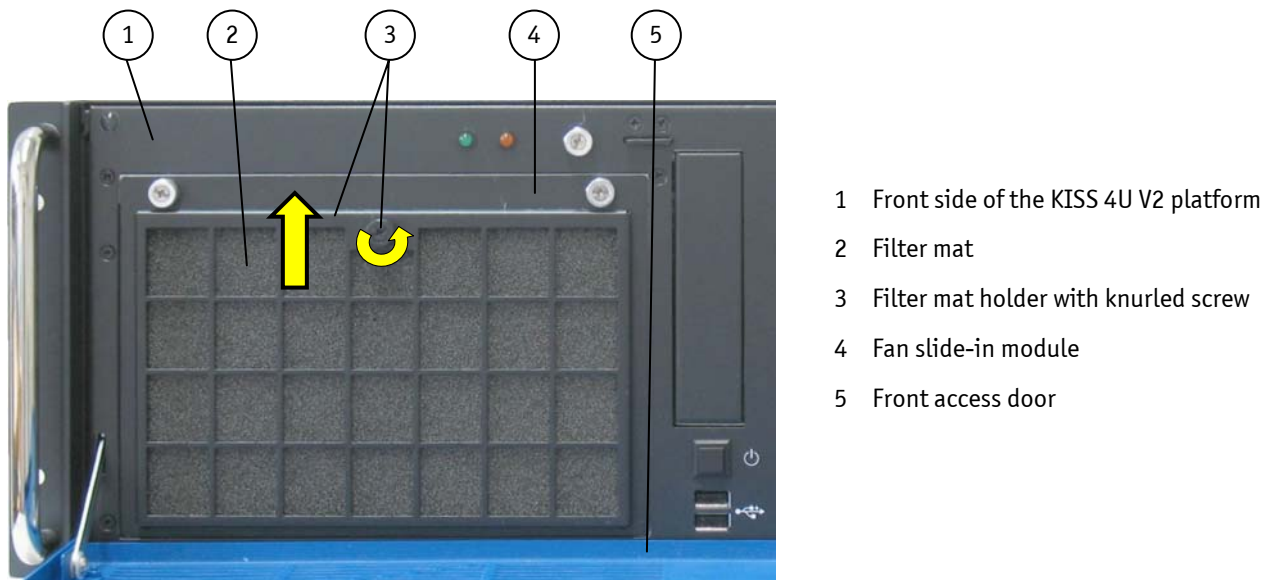
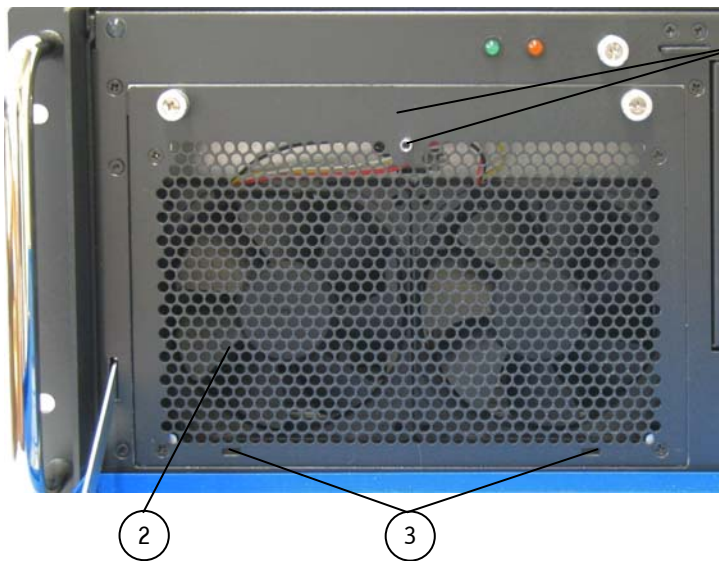

Fig. 32: Detail: Filter mat holder on the front side of the KISS 4U Short V2 platform
Fig. 33: Detail: without filter mat at the front side
The filter mat is inserted in the filter mat holder at the front side of the fan slide-in module (Fig. 32, pos. 4). The soiling of the filter mat is caused by the pollution of the operating environment. A heavily soiled filter mat can cause excessive heating of the device. For this reason we recommend to clean the filter mat as often as necessary. The filter mat can be changed during operation of the system.
1. Open the front access panel (Fig. 32, pos. 5).
2. Loosen the knurled screw that secures the filter mat holder to the fan slide-in module (Fig. 32, pos. 4 and Fig. 34, pos. 5).
3. Pull the filter mat holder out of the positioning slots (Fig. 33, pos. 3) into the marked direction (see Fig. 32) and lift it off.
4. Remove the soiled filter mat (Fig. 32, pos. 2 and Fig. 36).
7. Reattach the filter mat holder to the front side of the fan slide-in module by inserting the positioning latches (Fig. 34, pos. 6) into the positioning slots (Fig. 33, pos. 3).
8. Fix the filter mat holder by tightening the knurled screw (Fig. 34, pos. 5) to the bolt with tapped hole (Fig. 33, pos. 1) at the fan slide-in module.
#### Legend for Fig. 33 and Fig. 34: